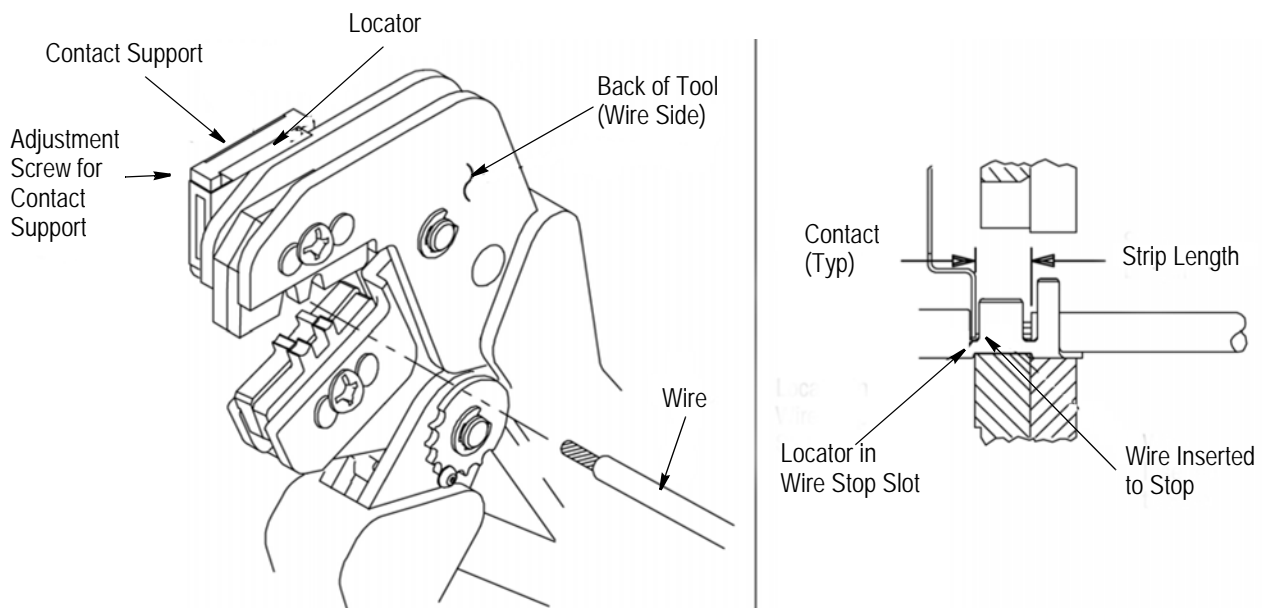

Figure 3
NOTE *The contact support is preset prior to shipment, but minor adjustment may be necessary. Refer to Figure 3.*
Refer to the table in Figure 1 and select wire of the specified size and insulation diameter. Strip the wire to the length indicated in Figure 1, taking care not to nick or cut wire strands. Select an applicable contact and identify the appropriate crimp section according to the wire size markings on the tool. Refer to Figure 3 and proceed as follows:
3. Position the contact so that the mating end of the contact is on the locator side of the tool, and so that the open “U” of the wire and insulation barrels face the top of the tool. Place the contact up into the nest so that the movable locator drops into the slot in the contact. Refer to Figure 3. Butt the front end of the wire barrel against the movable locator.
5. Insert stripped wire into contact insulation and wire barrels until it is butted against the wire stop, as shown in Figure 3.
NOTE The crimped contact may stick in the crimping area, but the contact can be easily removed by pushing downward on the top of the locator (see Figure 3).